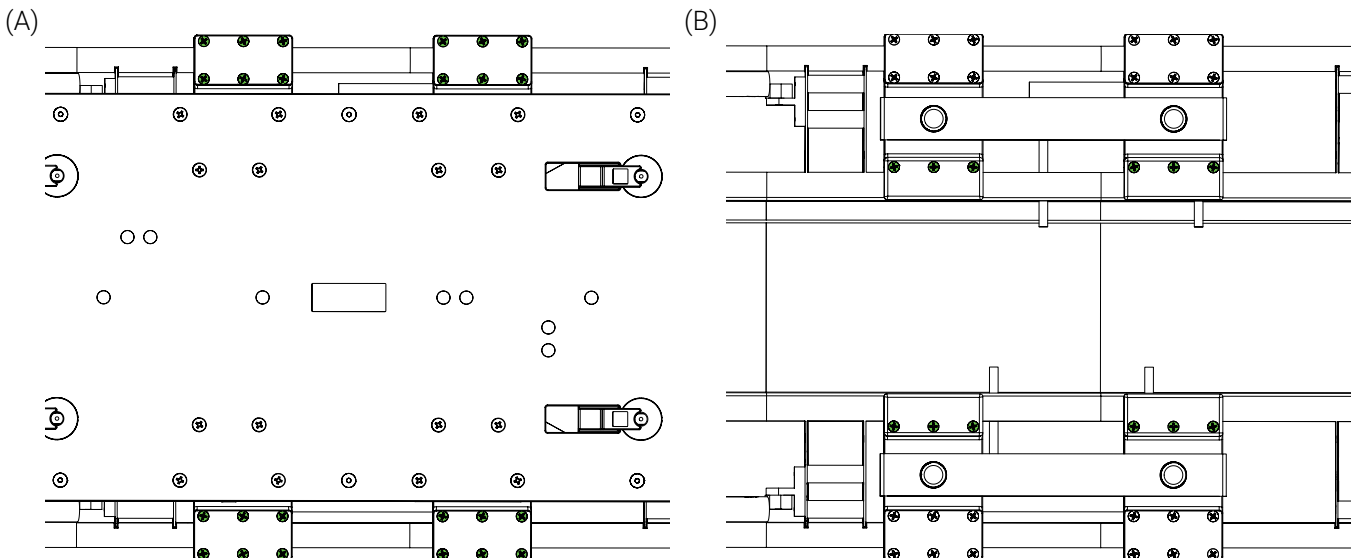

Figure 24: Tightening the clamp block screws
- Tighten the twenty-four (24) apparent screws (Figure 24 A) in an alternating pattern using a Phillips head screwdriver. A 30in.-lb torque is recommended.
- Remove the platform, then tighten the twelve (12) remaining screws (Figure 24 B) in an alternating pattern using a Phillips head screwdriver. A 30 in.-lb torque is recommended.